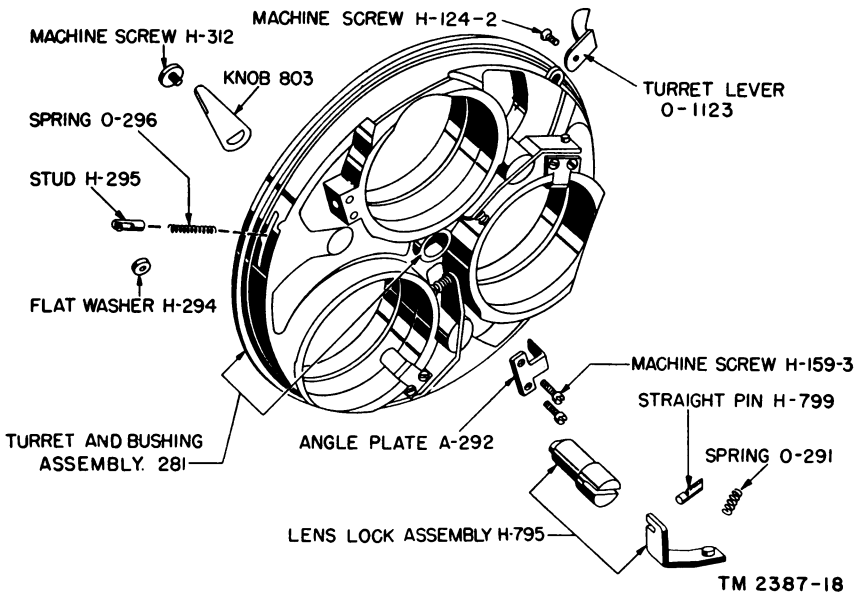

Figure 19. Lens turret, exploded view.
f. LENS TURRET (fig. 19).
- (1) Remove the lenses (par. 8) and then remove center screw H298 and key washer H297. Exert a steady, even pressure on the turret casting until the locking rollers (detent mechanism) snap into the machined ring in the camera body casting. Remove slowly, so that the locking rollers do not fly out. Each locking roller consists of washer H294 and stud H295, which slips into a groove in the side of the turret casting and is forced against the camera body by spring O-296. Angle plate A292, which locates the lens mount, is held to the casting by screws H159-3. To remove the lens lock assembly, remove screw H312 and knob 803 and lift off. Pin H799 fits into the hole in the